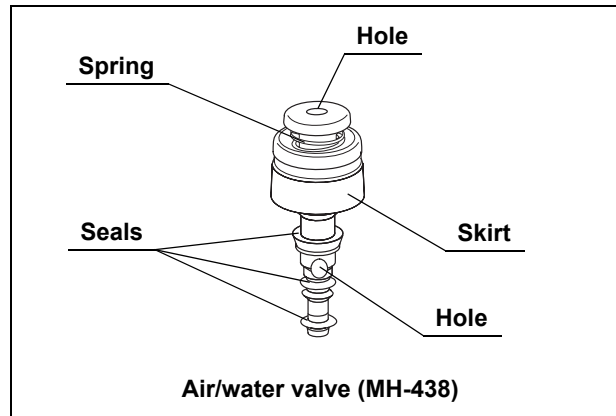

Figure 3.6
Confirm that the top hole of the air/water valve is not blocked (see Figure 3.6). If the hole is blocked, air is fed continuously and patient pain, bleeding, and/or perforation can result.
1. Confirm that the holes of the valves are not blocked (see Figure 3.6 and 3.7).
2. Confirm that the valves are not deformed or cracked (see Figure 3.6 and 3.7).
3. Check for excessive scratching or tears in the air/water valve's seals (see Figure 3.6).